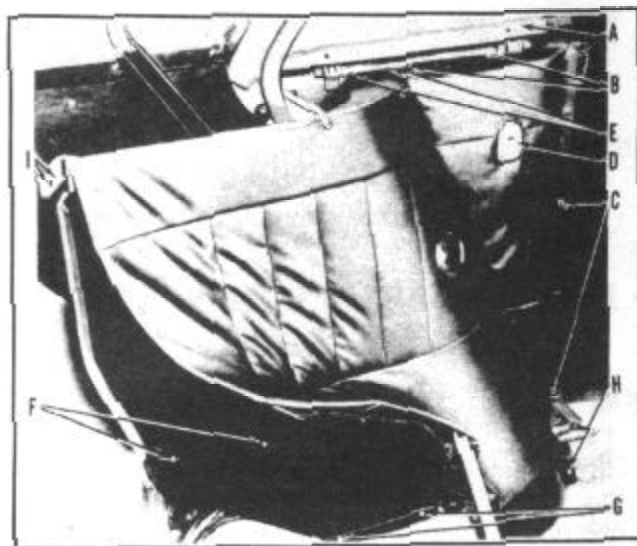

FIGURE 165
The quarter trim panel consists of two separate panels; the forward (triangular) panel is held in place by two screws (B), Figure 165, under the garnish moulding (A) and two screws (C) and countersunk washers at the door pillar. A clip at the rear of the panel enters behind the rear half of the quarter trim panel.
To remove the front half of the quarter trim panel, remove the garnish moulding (A), screws (B) and (C), and switch or regulator handle (D), Figure 165.